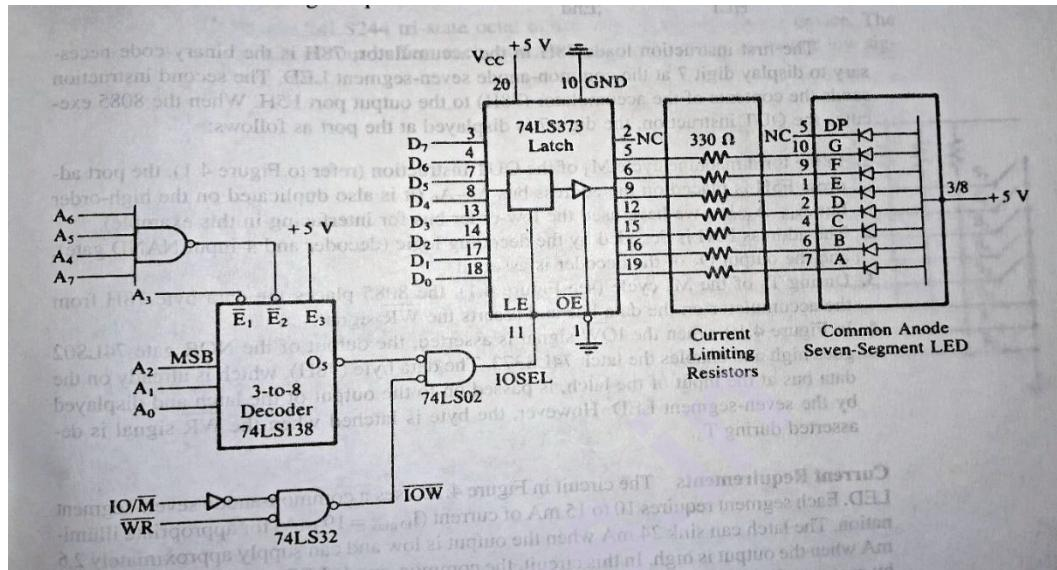

Figure 4.10:- Interfacing Seven-Segment LED
connected to DP; otherwise it is left open. The binary code required to display a digit is determined by the type of the seven-segment LED (common cathode or common anode), the connections of the data lines, and the logic required to light the segment. For example, to display digit 7 at the LED in Figure 4.10, the requirements are as follows :
4. In the Figure 4.10, when the \overline{IOW} signal is asserted, the output of the NOR gate 74LS02 goes high and enables the latch 74LS 373.